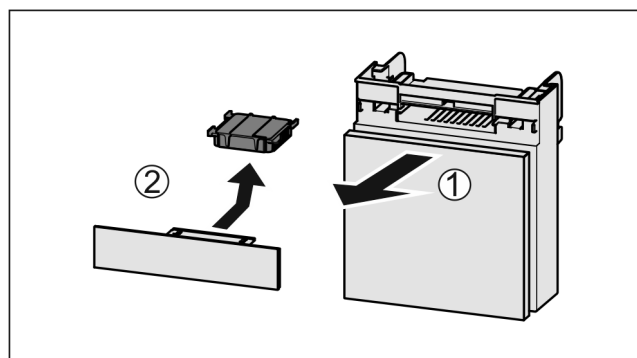

Fig. 120
- Pull out the compartment Fig. 120 (1).
- Remove the carbon filter Fig. 120 (2).